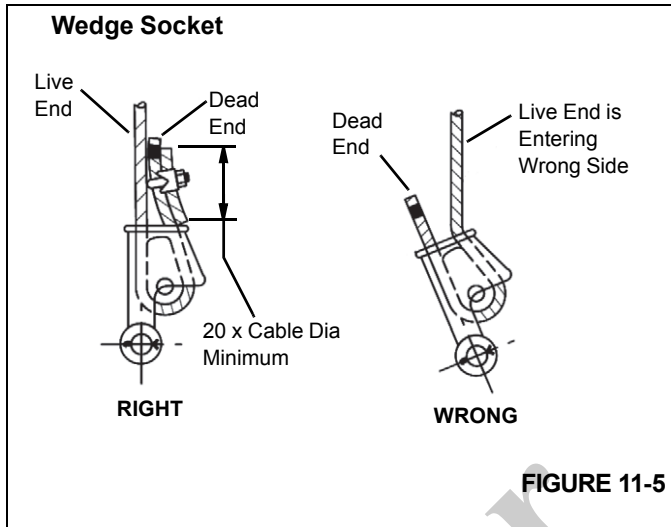

FIGURE 11-5
3. Make sure the live-end (Figure 11-5) of the rope is directly in line with the ears of the socket and the direction of pull to which the rope will be subjected. If the rope is loaded into the socket incorrectly, under a load
4. Insert the end of the wire rope into the socket, form a loop in the rope, and route the rope back through the socket allowing the dead-end (Figure 11-5) to protrude from the socket. Ensure the dead-end of the rope is of sufficient length to apply end treatment to the dead-end after the wedge has been seated.